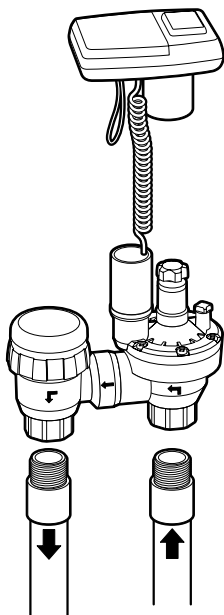

FIGURE 6
3. Install the anti-siphon valve directly to PVC pipe using 3/4 in. PVC male adapter or use Schedule 80 nipple. The arrow on valve body indicates direction of water flow (see Figure 6).